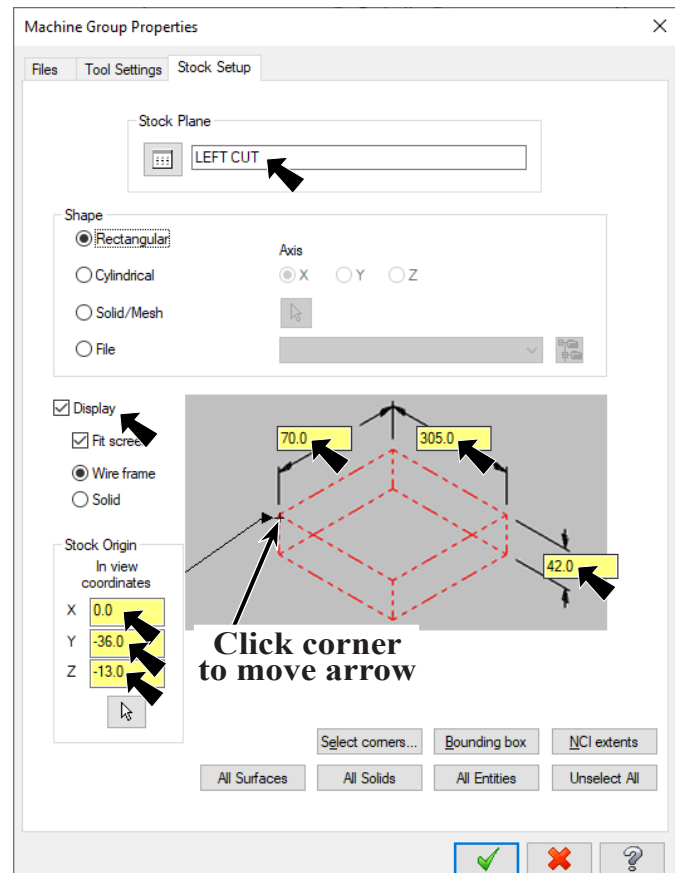

Fig. 2
Step 5. Confirm Stock Plane is **Left Cut**, **Fig. 2**.